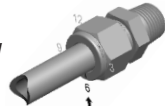

Fig. 2
2. Scribe mark the nut at 6 o'clock position. (Fig. 2)